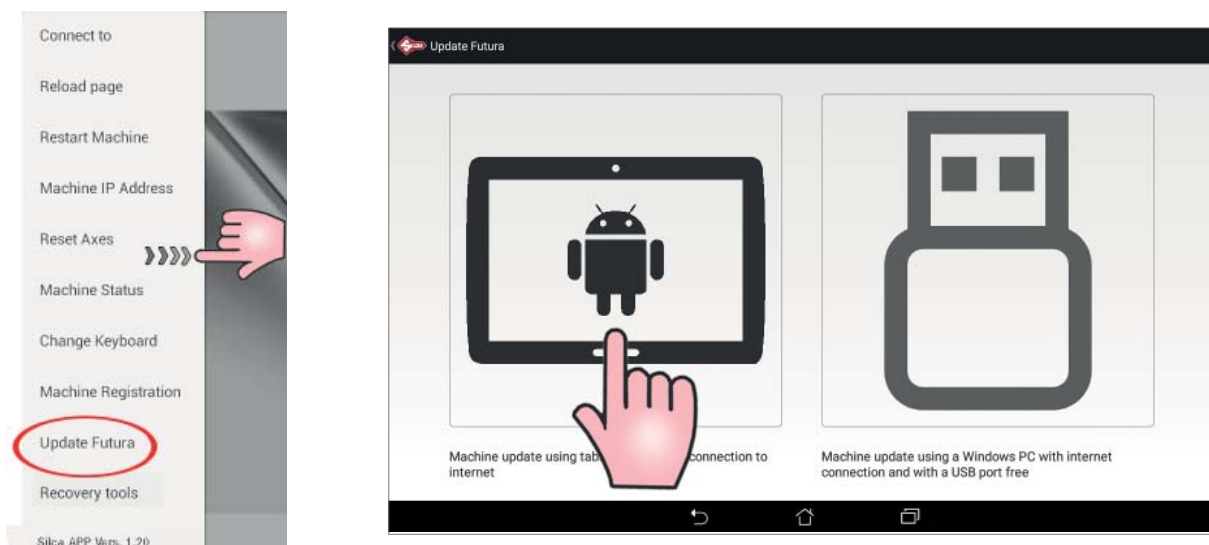

Fig. 10
- Click on the tablet image (Fig.10) and follow the guided procedure (if the tablet is not connected to a Wi-Fi network you will see a screen from which a Wi-Fi network can be selected).